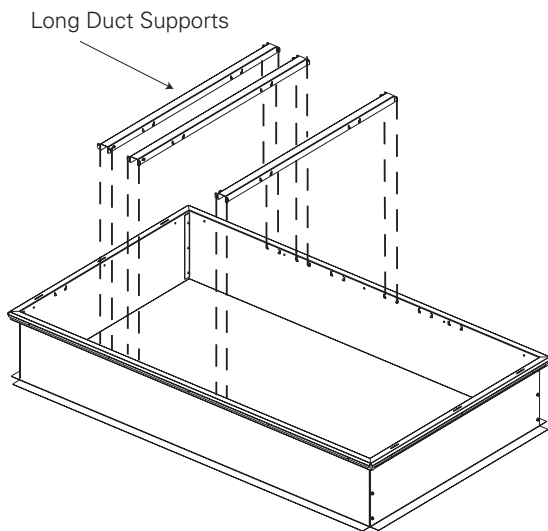

Figure 9. Step two
(Return section): insert the first duct support 18.43 inches from either end by inserting the tabs on each end of the duct support into the appropriate triangular shaped slots. See Figure 9, p. 8. For your convenience we have provided screws and screw holes for securing each duct support. Use one screw for each end of a long duct support. These screws are not necessary for strength or function, but are to prevent accidental disassembly during duct attachment.
4. Insert the other two long duct supports as shown on the top view (Supply Section). See Figure 9, p. 8. Verify the 5.18" and 18.45" dimensions between long duct supports.